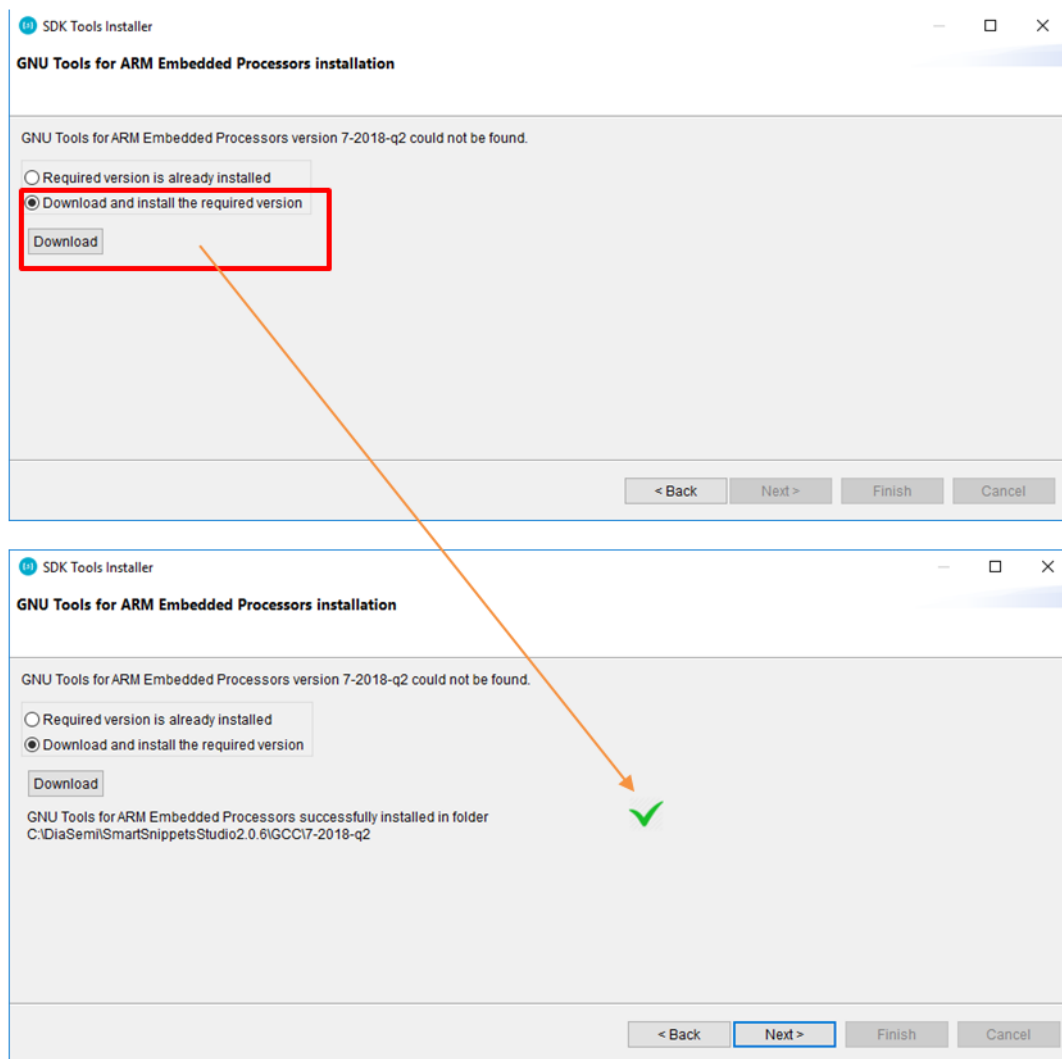

Figure 9: GCC Tools Installation
4. The **SDK Tools Installer** will prompt for the installation of GCC and the default version 7-2018-q2 is recommended to download. Select **Download and installed the required version** and click **Download** (Figure 9). After the download is complete the green completion mark is shown and the **Next** may be pressed to continue (Figure 9).